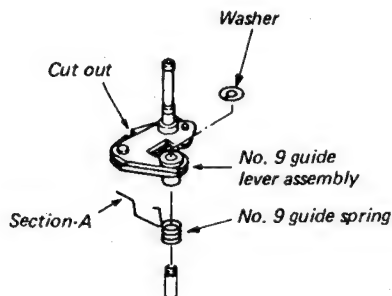

Fig. 1-3-24 No. 9 guide lever replacement
1. Remove the washer shown in Fig. 1-3-24.
2. Remove No. 9 guide lever assembly shown in Fig. 1-3-24.